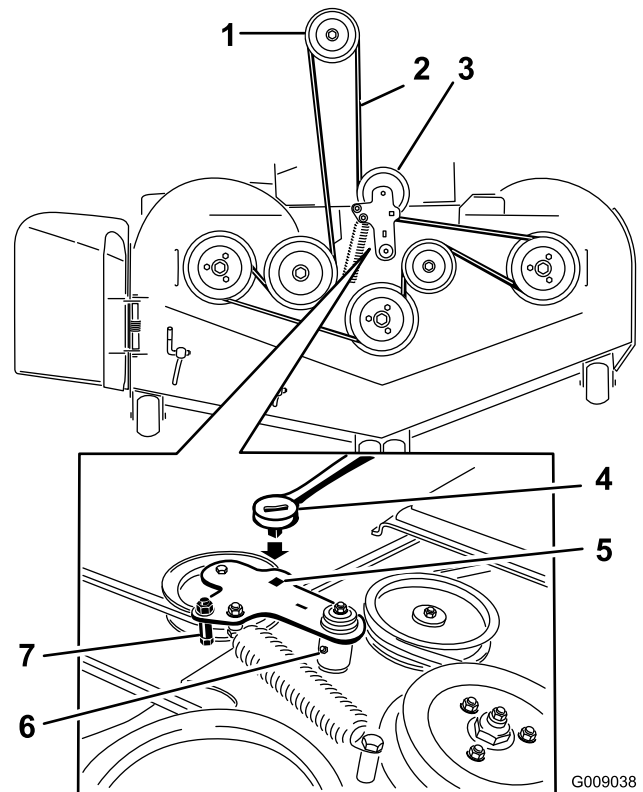

Figure 96
- Lift up the floor pan and insert a ratchet into the square hole in the deck idler (Figure 96).
- Rotate the deck idler clockwise and remove the mower belt (Figure 96).